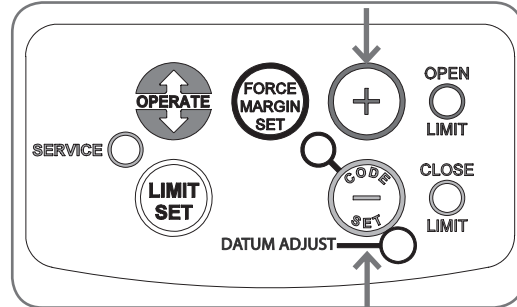

Fig. 23
- Press and hold the MINUS (-) or PLUS (+) button to move the door to the halfway open position. (Fig. 23).